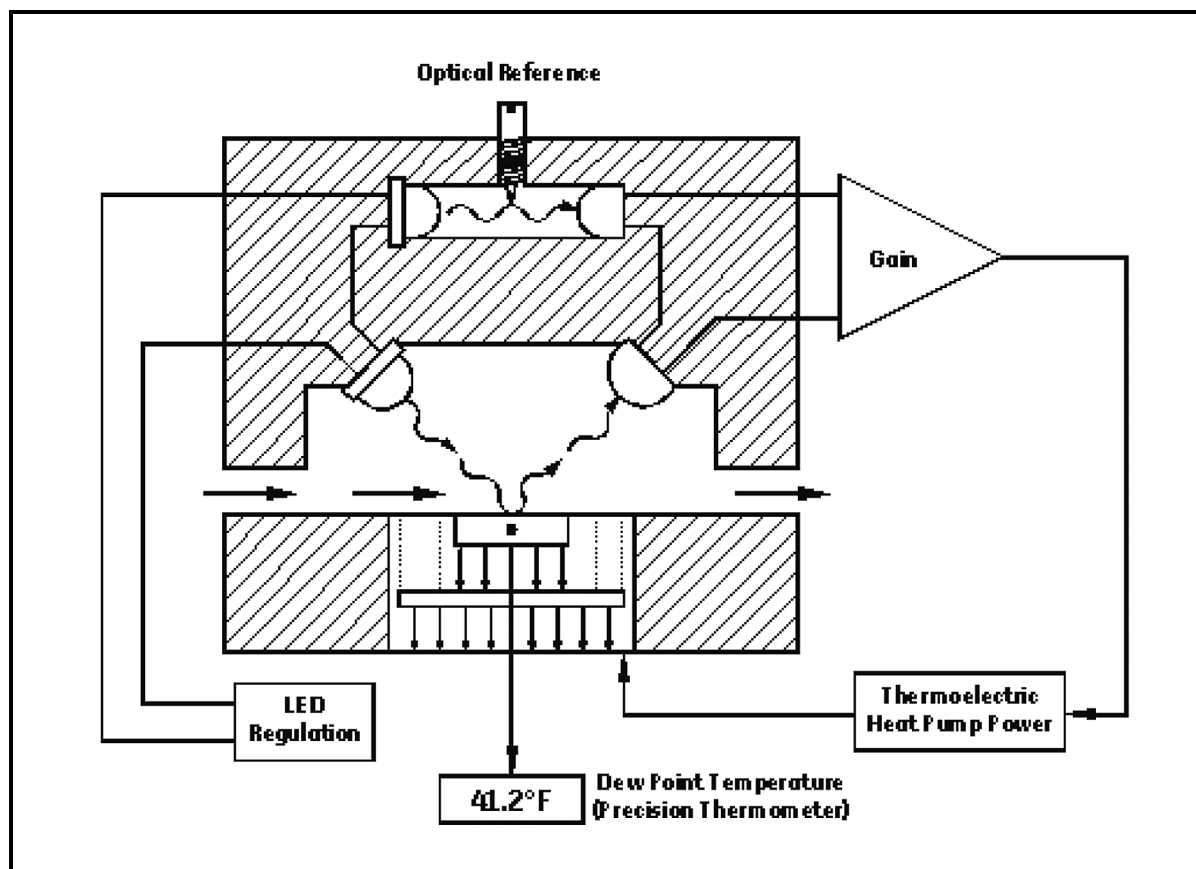

Figure E-1: Chilled-Mirror Hygrometer Diagram
Figure E-1 on page E-2 illustrates how GE Sensing hygrometers detect and measure dew point. The condensate mirror is illuminated with a solid state, infrared emitter (IR). A photodetector monitors the IR light reflected from the mirror. The photodetector is fully illuminated when the mirror is clear of dew, and it receives less light as dew forms. A separate LED and photodetector pair are used as a known reference to compensate for any thermally induced changes in the OptiSonde components. The photodetectors are arranged in an electrical bridge circuit, the output current of which is proportional to the light reflected from the mirror. The bridge output controls the electrical current to the thermoelectric cooler.